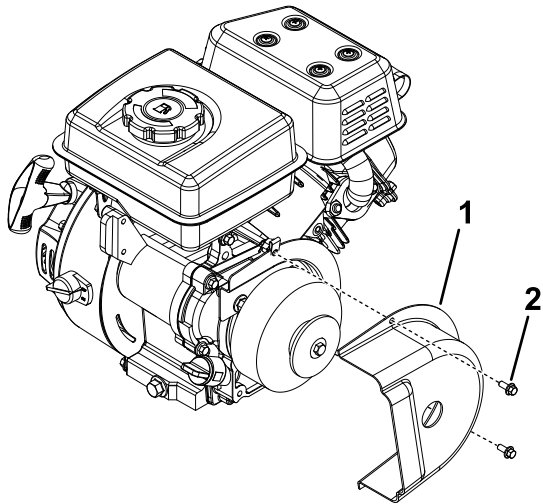

Figure 5
6. Install the engine shroud as shown in Figure 5.